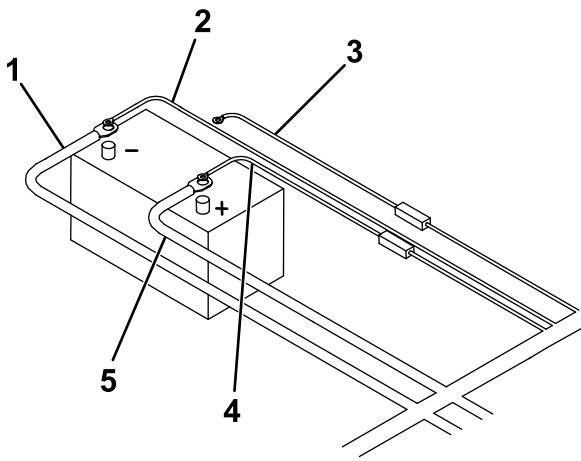

Figure 21
23. Connect the black power/ground cable to the negative (-) battery terminal (Figure 21).
- 24. Connect the brown wire to the negative (-) battery terminal (Figure 21).
- 25. Connect the free end of the battery cable to the positive (+) battery terminal (Figure 21).
- 26. Connect the red, fused wire and the red/white fused wire to the positive (+) battery terminal (Figure 21).